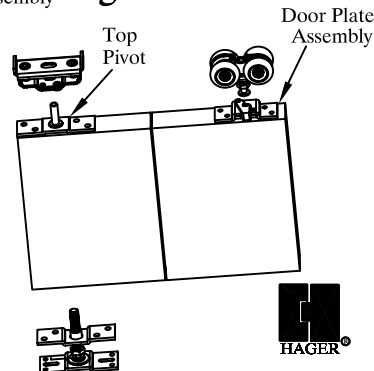

Fig. 5
5. Install Pivot Door by inserting Top Pivot into Track Pivot Bracket, then dropping door down so Bottom Pivot engages Floor Plate Assembly. Hang Guide Door by engaging Door Plate Assembly to center bolt of Hanger, then swing Hanger Lock into place. (Fig. 5)